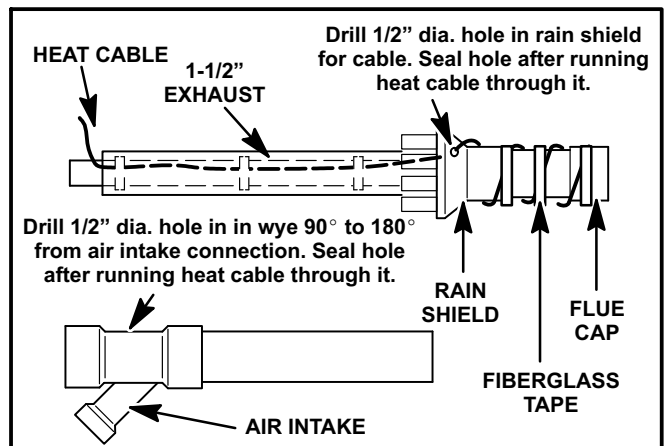

FIGURE 5
- 9 - Figure 5 shows wrapping a concentric vent termination before it has been installed. The 6 ft. cable is sufficient for this method. If allowable, this method is recommended over the first method because it provides better flue pipe protection.